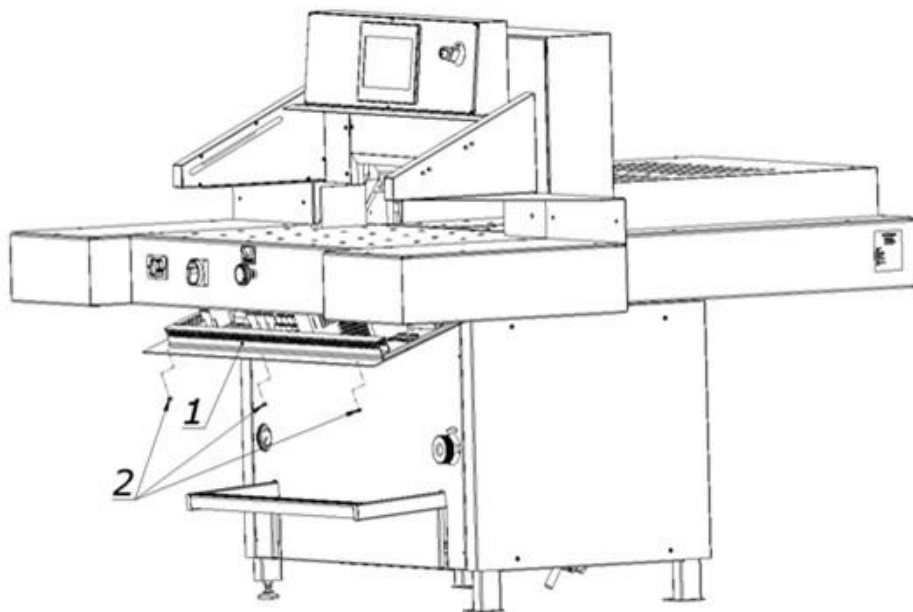

Figure 13. Location of electrical access panel
1. Hinged housing of electrical access panel (Fig. 13)
2. Nuts fixing the housing (Fig. 13)